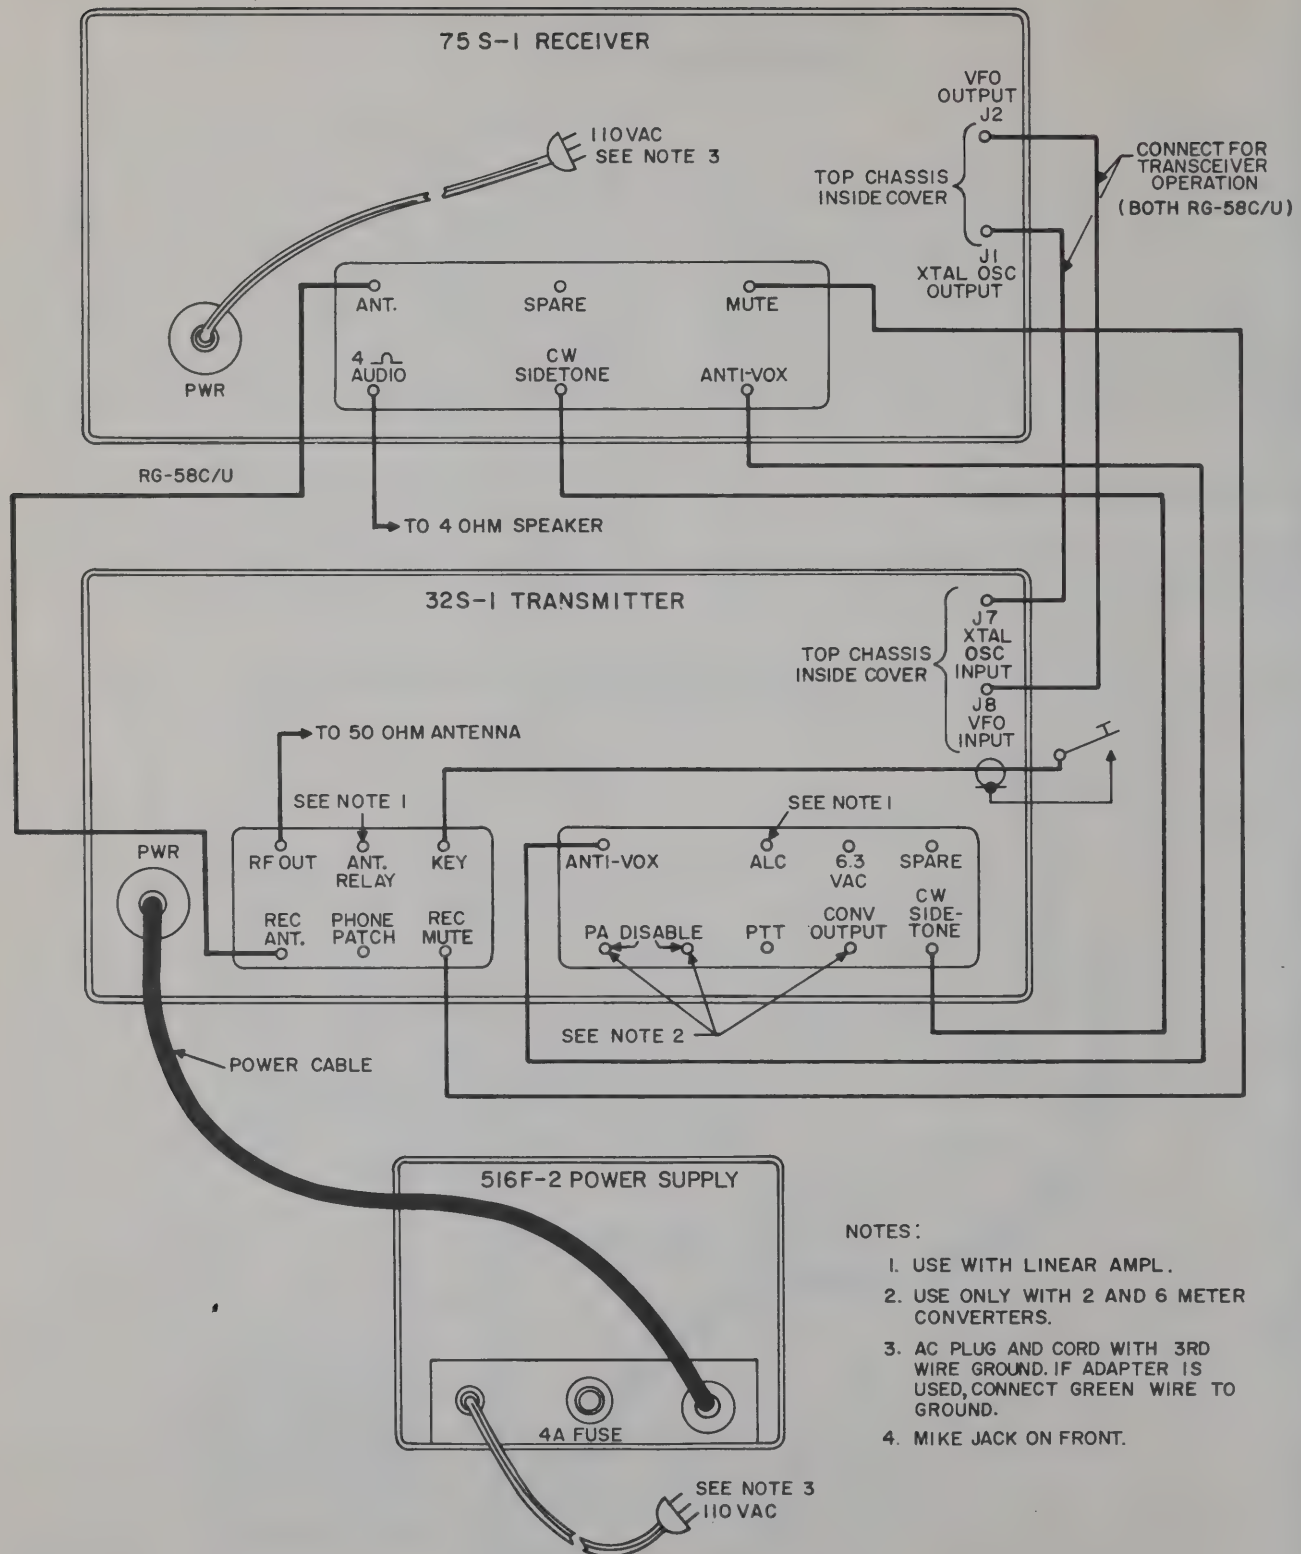

Figure 1-2. Receiver-Transmitter Interconnections
e. Set METER switch (9) to P.A. PLATE position, and dip plate current with P.A. TUNING control (4).
f. Set EMISSION switch (8) to LOCK KEY position, and advance MIC GAIN control to approximately 3/4 full scale (about 3:00 o'clock). Plate current should be 230 ma at dip if antenna is 50 ohms and feed line is flat. If the feed line does not present 50 ohms (resistive) to the transmitter, adjust the INCREASE LOADING control (12), redipping plate current with the P.A. TUNING control (4) after each loading adjustment, until the power amplifier loads to 230 ma at the plate current dip.
g. Set EMISSION switch (8) to CW and the transmitter is ready for CW operation. While sending a series of dots, adjust MIC GAIN control (6) to obtain an alc indication of about 3 db on the meter (5). (Be sure METER switch (9) is in ALC position.)
i. If the transmitter is connected with a 75S-1 Receiver, as shown in figure 1-2, and it is desired to zero beat the transmitter to a frequency tuned on the receiver, proceed as follows: